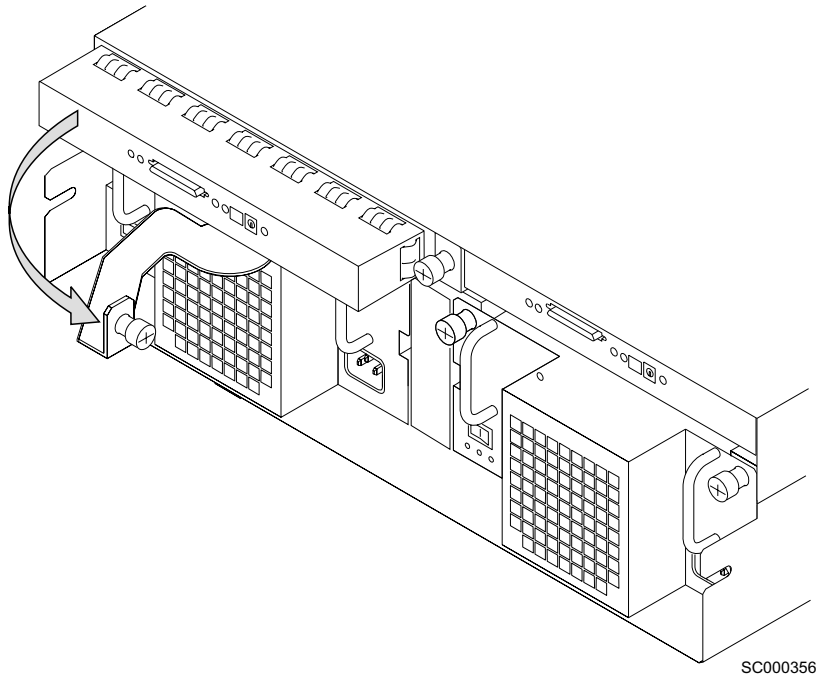

Figure 36. Opening the lever on the card assembly
- b. Pull the lever **1** out to unplug the card assembly from the 2104 Model DS4. See Figure 36.